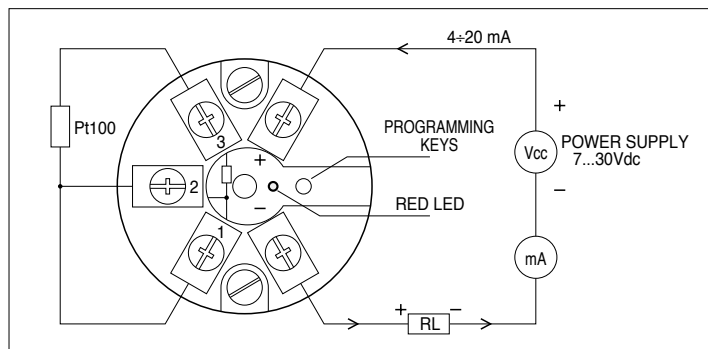

Fig. 2 Wiring diagram of the transmitters.
Output	4...20 mA (or 20...4 mA) 22 mA in case of incorrect programming or temperature out of range note 1 and Fig. 2
Fig. 2 reports the connection diagrams for the transmitters in the current loop. In order to obtain the maximum precision, the connection to the Pt100 should be performed with 3 wires and with wires having the same diameter so to grant the same impedance in each connection. The symbol RL (load) represents any device in the current loop that is to say an indicator, a controller, a data logger or a recorder.
1. Connect the transmitter to set-up as shown in Fig. 2 and set the Pt100 calibrator at the required temperature suitable for 4 mA (for example, assuming that you want to set the range -50...+200°C, you will set the calibrator to -50°C or equivalently you will connect a resistance of 80,31Ω between terminals 1 and 3 while 1 and 2 shorted).